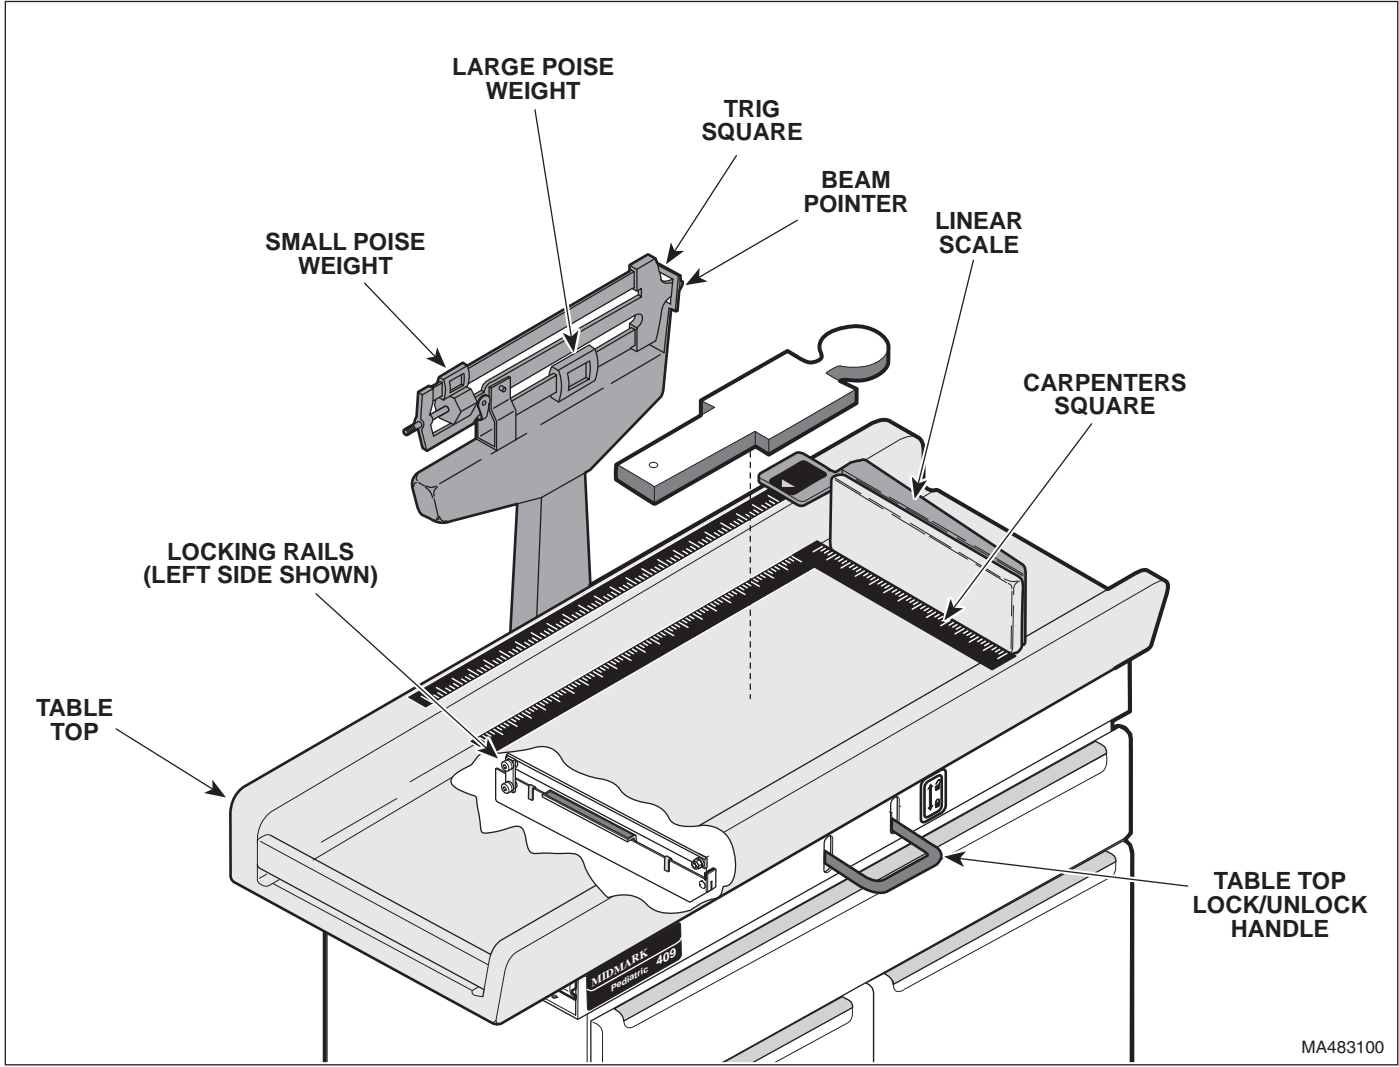

Figure 2-1. Operational Test (Models 409-004 & 409-005)
2.1 Operational Test (Models 409-004 and 409-005) (See Figure 2-1)
- (1) Move table top locking handle to LOCK position. Attempt to move table top (See Figure 2-1).
- (2) Observe. The table top should be firmly locked into a stationary position.
- (3) Move table top locking handle to UNLOCK position.
- (4) Observe. The table top should not be locked into a stationary position anymore. Look between table top and base. There should be approximately a 1/4 in. (6.35 mm) gap between locking rails and bottom of table top; at the very least, there should not be any contact.
- (5) Push down on center of table top a few times to align and exercise all internal scale parts.
- (6) Remove any items from table top. Set large poise weight to zero, making sure it is seated in notch and set small poise weight to zero, making sure small poise weight is pushed firmly against shoulder of beam.
- (7) Observe. The beam pointer should balance in center of trig square, indicating scale is zeroed.